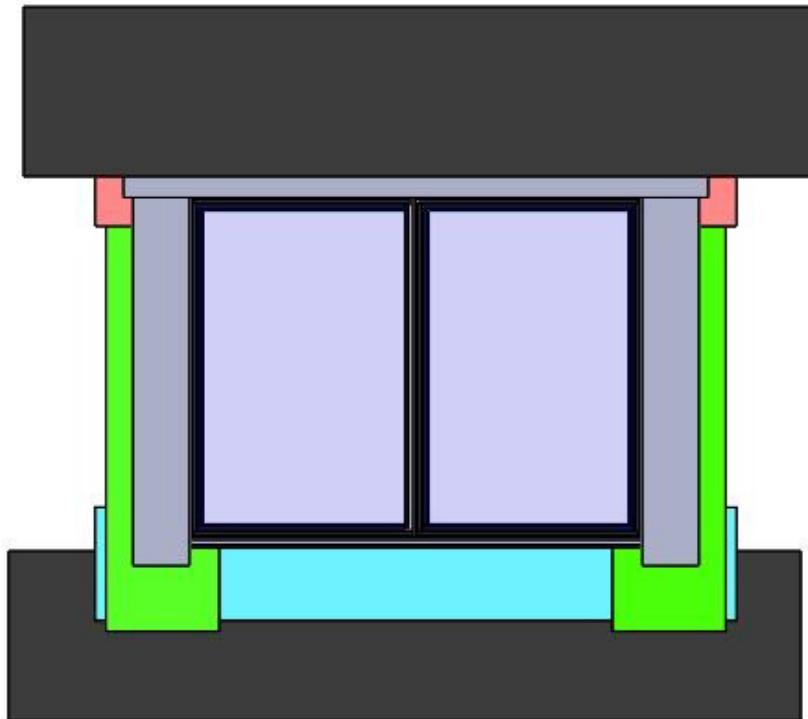

Figure 8
10. Install 6" SASM on jambs and then on head, 3" beyond nail fin. SASM should NOT be applied on sill nail fin to facilitate optimal weeping. Ensure that wall wrap is layered over head flashing and that jamb flashing is layered over wall wrap. See Figure 8 below.